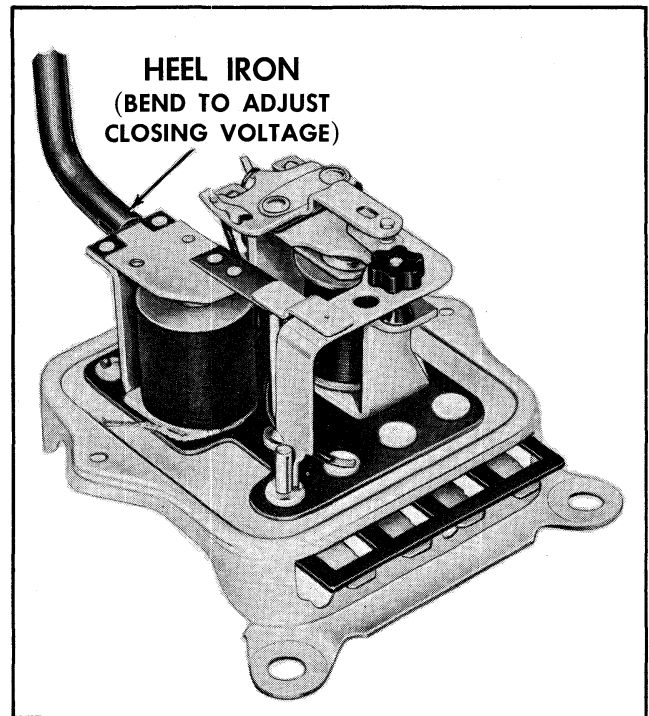

Fig. 11-42 Adjusting Field Relay Closing Voltage
B. Slowly decrease resistance and note closing voltage of the relay. Adjust by bending heel iron in the manner illustrated in Fig. 11-42.